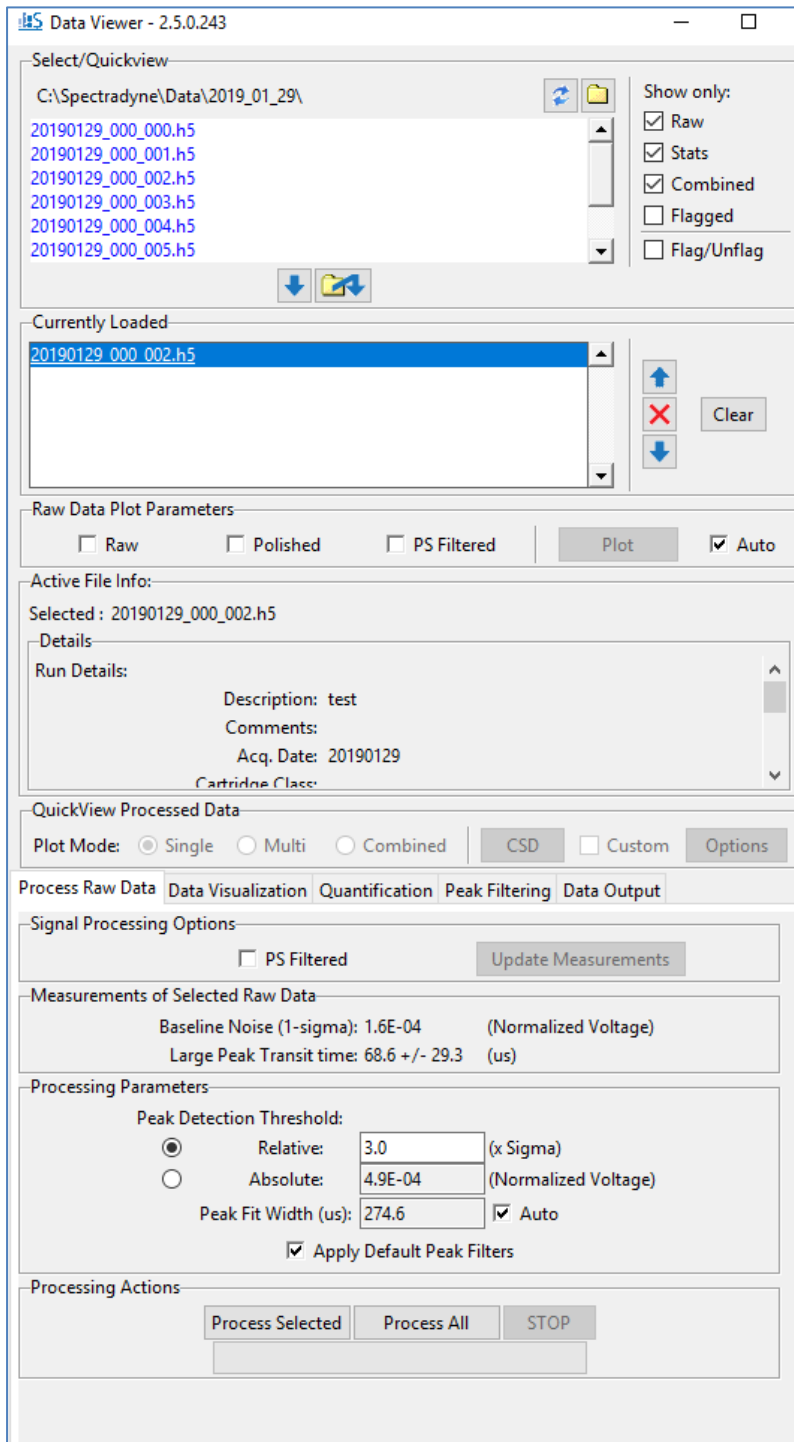

Figure 15. Overview of the Spectradyne Viewer software user interface.
- In the Select/Quickview frame (Figure 15), use the folder icon to the right of the current path to navigate to the location of the raw data.